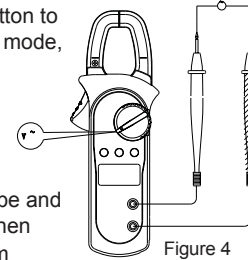

Figure 4
2. AC voltage measurement (V) (See Figure 4)